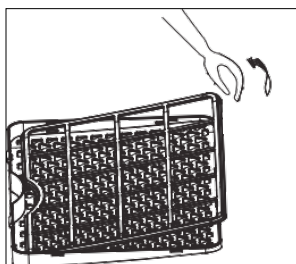

Fig. 2
2. Remove the air filter from the holder (Fig. 2).